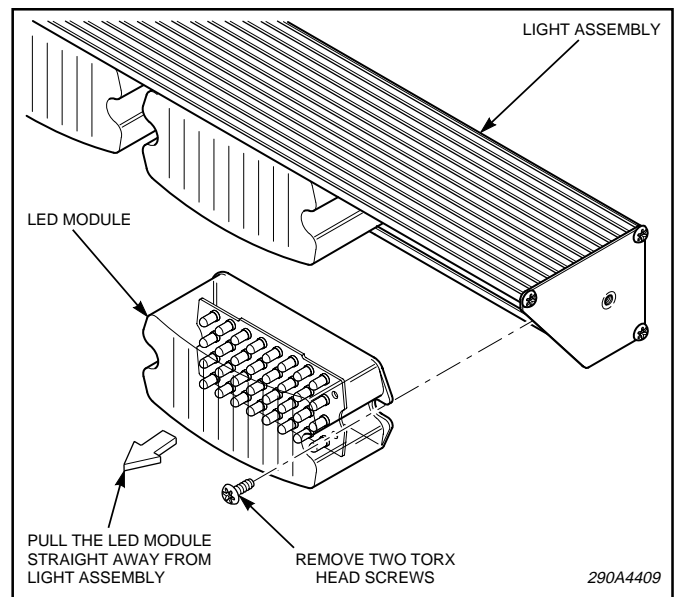

Figure 2.
1. See figure 2. Remove and retain the two screws which secure the LED module assembly.